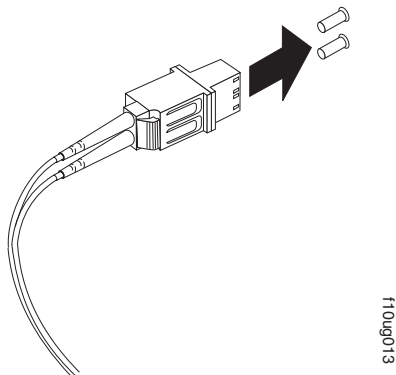

Figure 31. Removing the LC-SC cable adapter protective caps
3. Remove the two protective caps from the LC connector end of the LC-SC cable adapter as shown in Figure 31. Save the protective caps for future use.